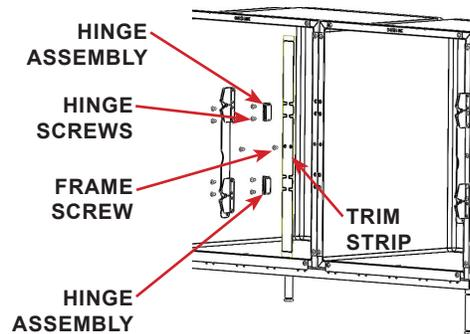

FIGURE 2.29 - Hinge Removal
- STEP 19:** Remove the screws holding the hinges and the center frame screw between the hinge assemblies from the recently added cage. See FIGURE 2.29
- STEP 20:** Install the trim strip underneath the hinge assemblies and thread the center frame screws, do NOT fully tighten. See FIGURE 2.29